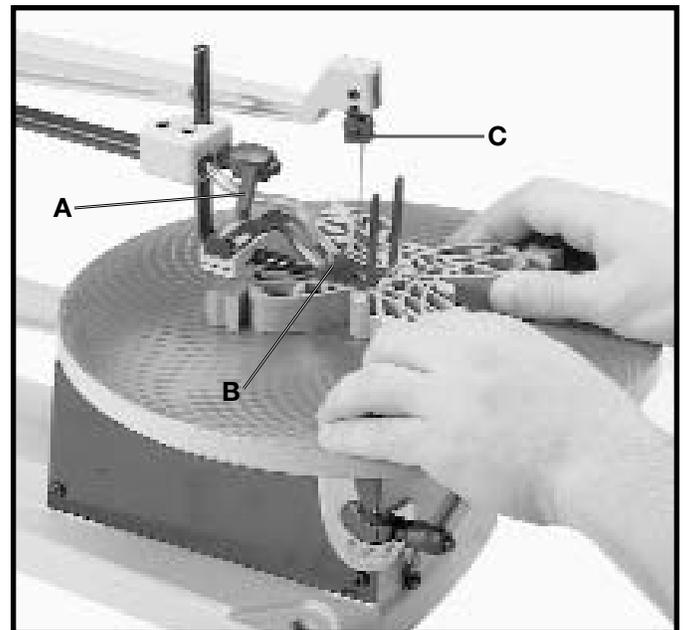

Fig. 25
Loosen lock handle (A) Fig. 25, and raise the spring holddown (B). Release blade tension by moving the blade tension lever to the vertical position as previously explained. Use the quickset blade changing wrench and loosen upper blade holder screw (C) as previously explained. This will release the blade and allow you to thread the blade through the next hole in the pattern. Replace blade in upper blade holder and move blade tension lever to the horizontal position to re-apply blade tension. Lower spring holddown and you are ready to make the next cut.